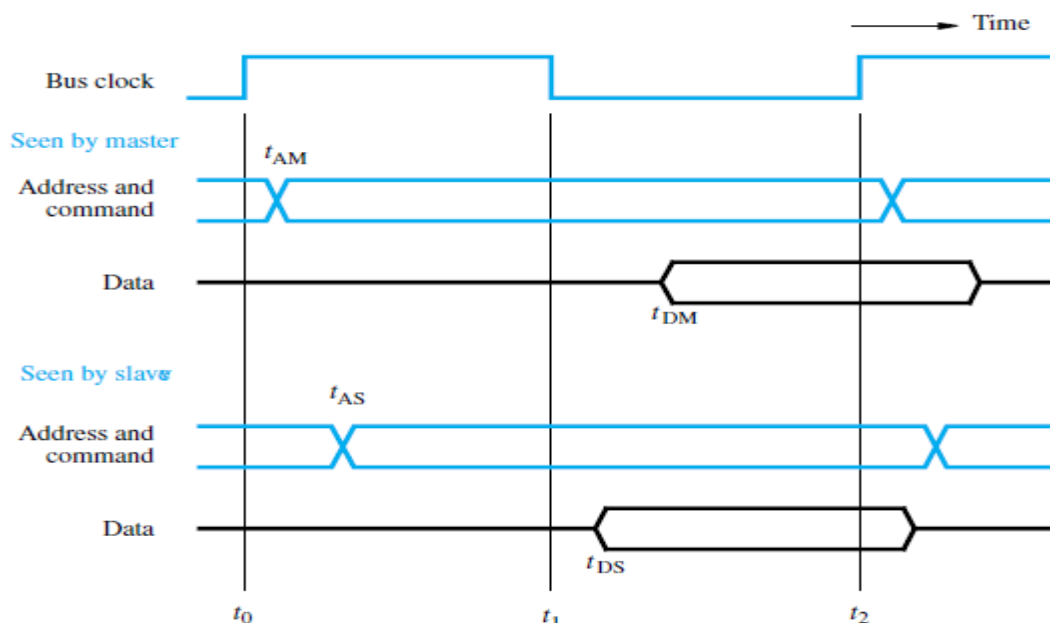

Figure 7.4 A detailed timing diagram for the input transfer of Figure 7.3.
- The picture shows two views of the signal except the clock (Figure 7.4).